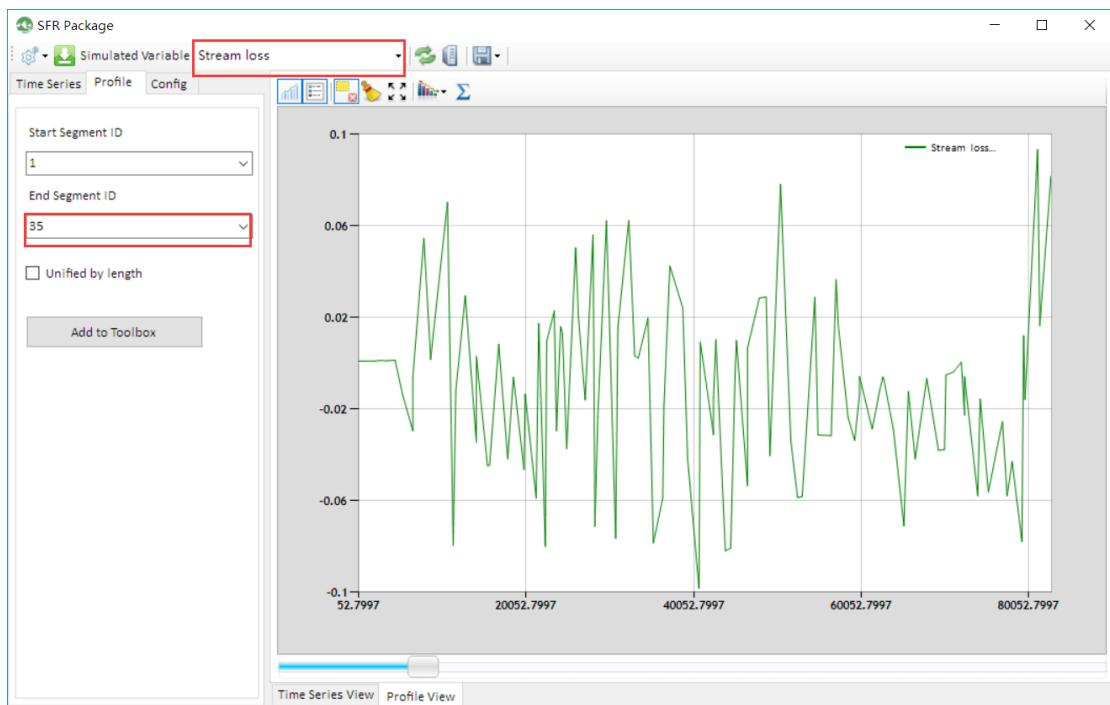

Figure 8-7. Spatial variation of stream-groundwater interaction flux along the main stream of the Miho River.
- 4) Select “Stream loss” in the simulated variables dropdown list and select “35” in the End Segment ID dropdown list to view spatial variation of stream-aquifer interaction flux. The positive values indicate stream leakage to groundwater and positive values indicate groundwater discharge to streams (Figure 8-7).